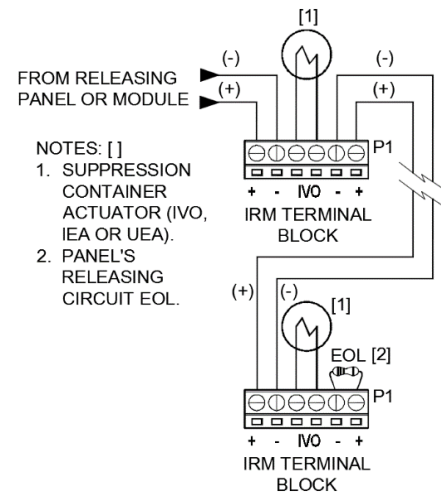
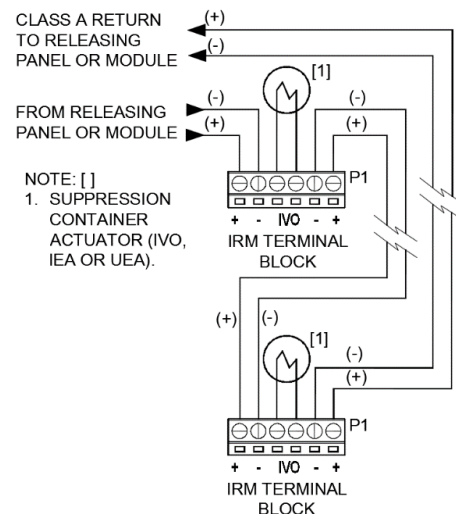

Figure 4 - Class B Wiring - Actuator Connected
Figure 5 - Class A Wiring - Actuator Connected
5. Connect the wire leads from the actuator (IVO, IEA or UEA) to the IRM terminals labeled IVO, as shown in Figure 4 and Figure 5.